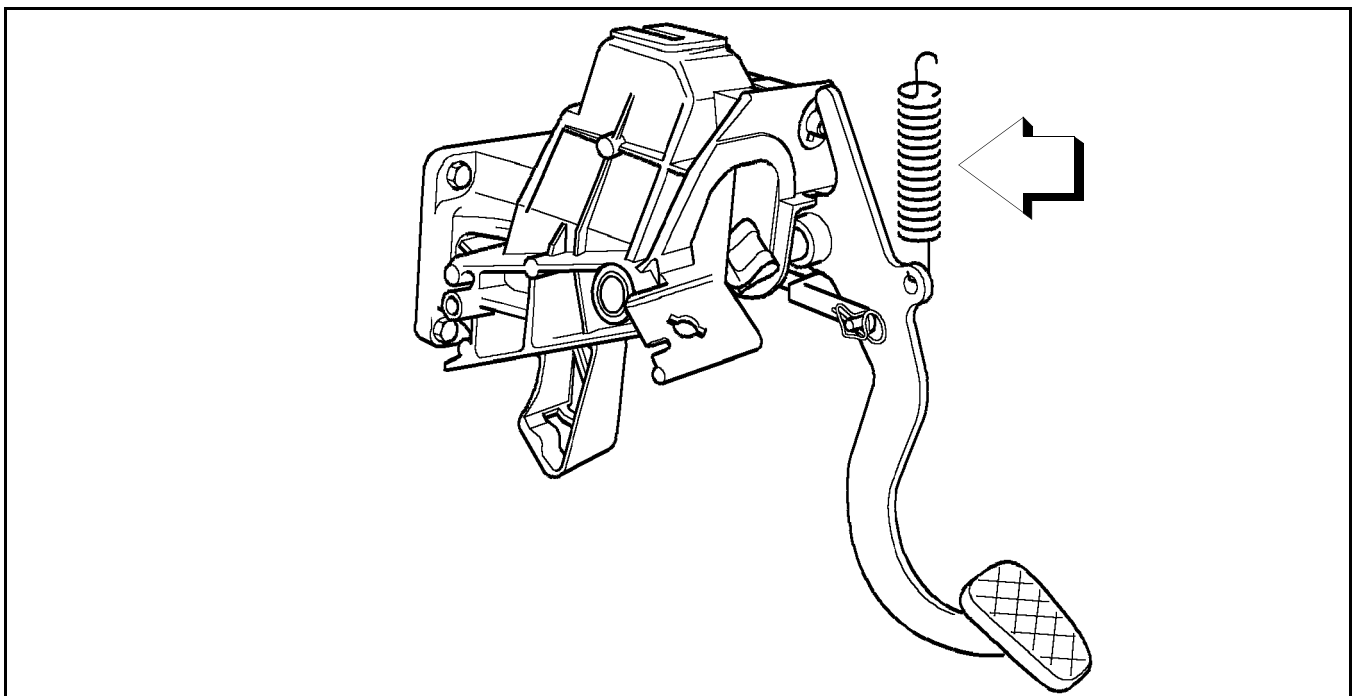

Figure 234 Brake Pedal Spring
5. Detach brake pedal spring from steering column (Figure 234).
11. Reinstall the brake pedal spring (Figure 234).